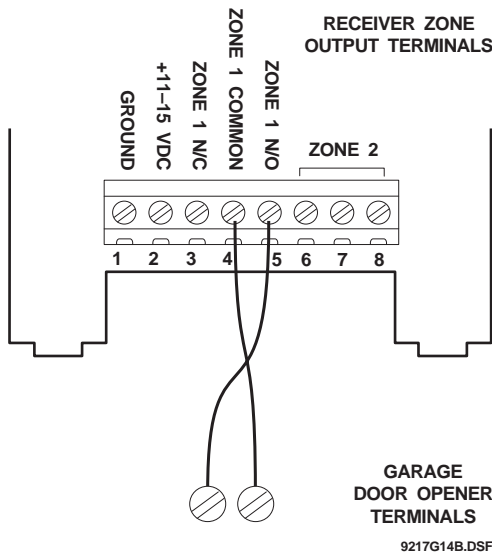

Figure 6. Wiring a receiver zone output to the terminals of a garage door opener
- 4) Using Figure 6 as a guide, connect the Powerflash Interface Module to the appropriate receiver zone output.